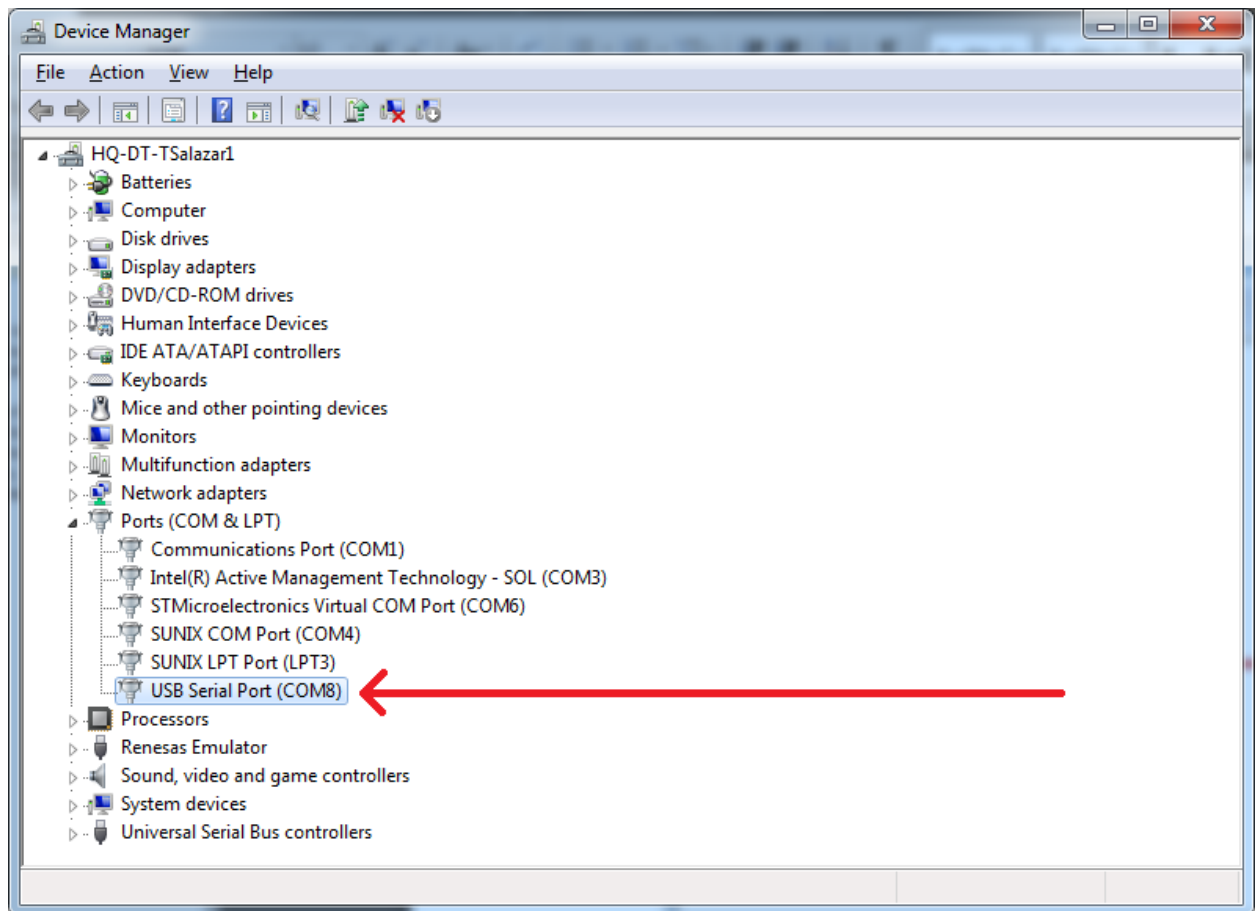

Figure 10. Device Manager built into Windows.
10. If the COM port is not found automatically, open **Device Manager** in your Windows operating system as shown in Figure 10 to verify to which COM port the iqlInterface hardware is connected. Then manually set that COM port in the **IQ Connection Settings** window and press the **Connect** button again. If you still cannot connect after doing this step, contact IQ² Development's technical support or refer to IQ² Development iqlInterface user manual located at <http://www.iq2-development.com/downloads/>.